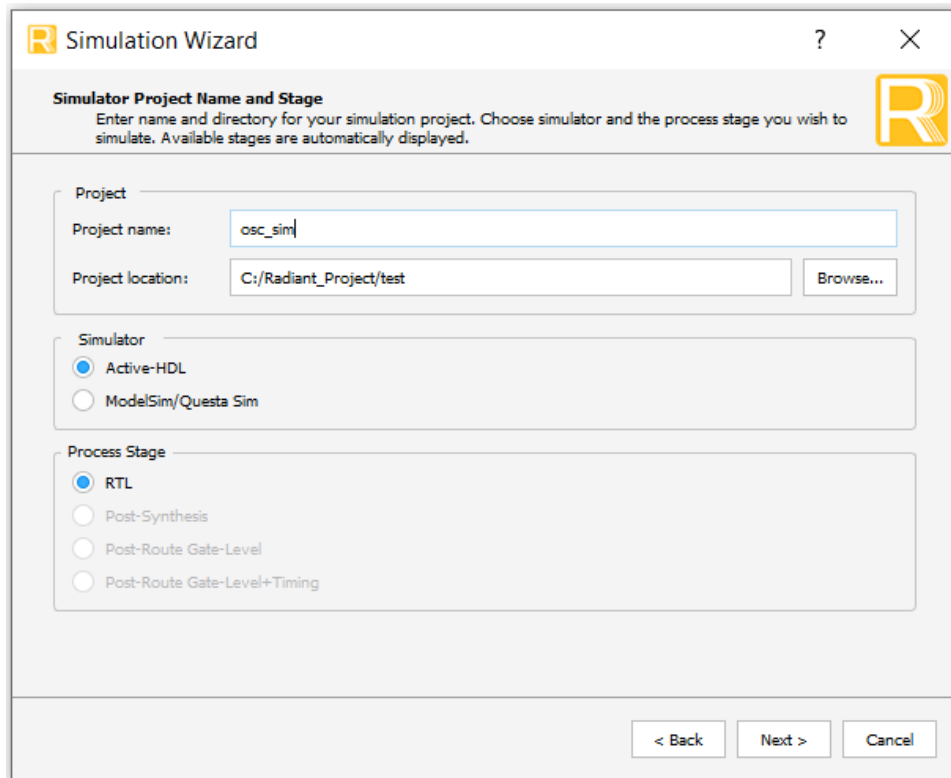

Figure 3.4. Simulation Wizard
1. Click the  button located on the Toolbar to initiate the Simulation Wizard shown in Figure 3.4.